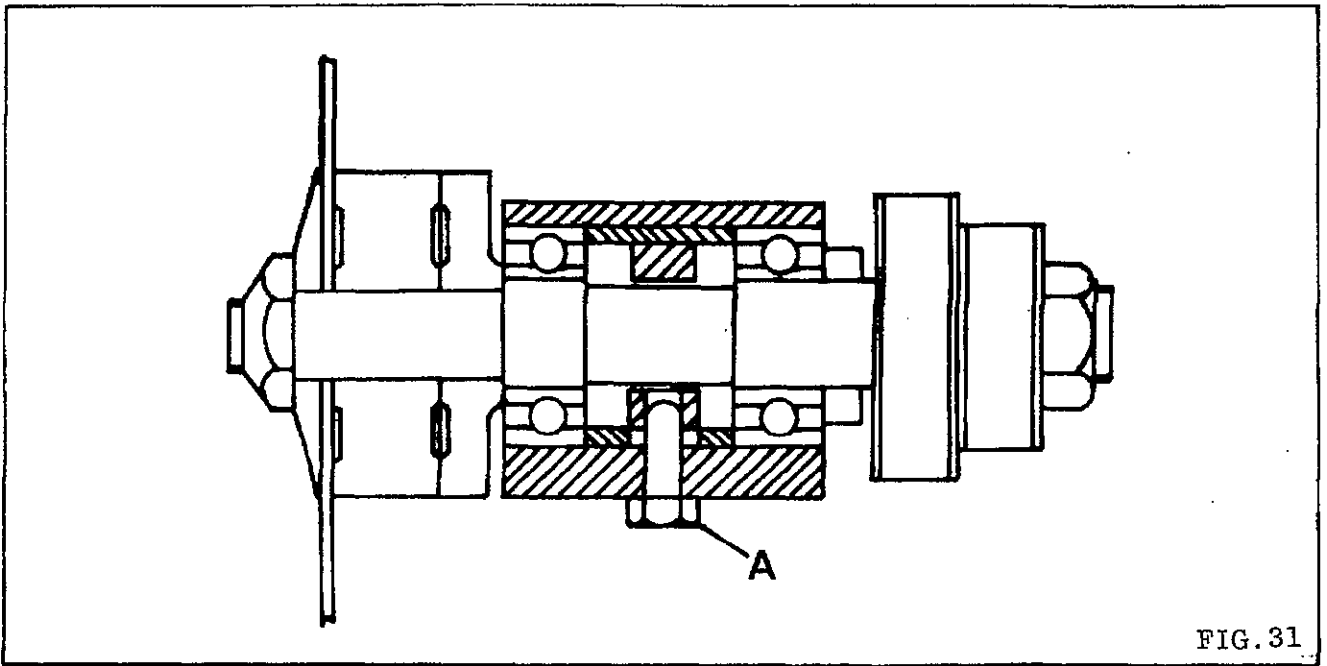

FIG. 31
- 1 Loosen the hexagon head adjuster bolt "A" in FIG.31, and tap spindle (with hide-face hammer) as required, taking care not to damage the threads on spindle ends.